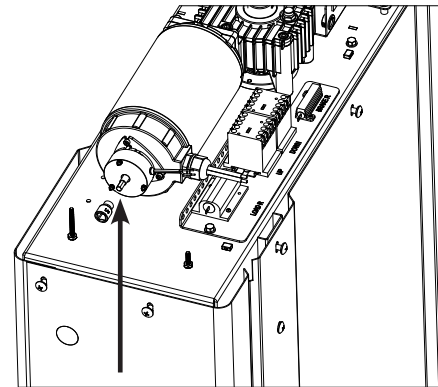

Figure 6-11
- If you have a 3/8" drive ratchet or a cordless drill with a 3/8" socket adapter bit you can use the 1/4" socket for lowering. Power the drill in the forward direction - rotating clockwise to lower the platform. **See Figure 6-11.**